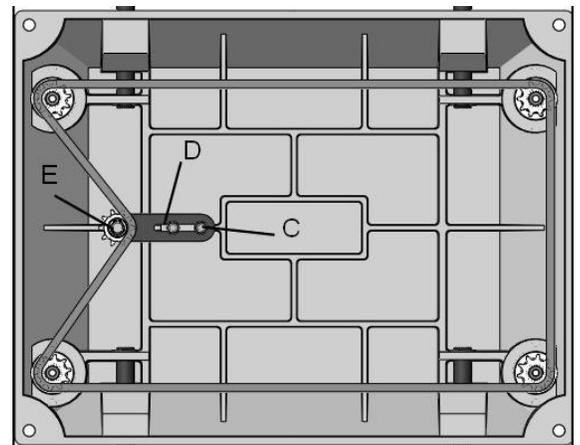

Fig. 17
If head casting is not parallel to table, tilt planer on it's side. Remove bolt C and loosen bolt (D) (Fig. 17). This will enable you to move the idler sprocket assembly (E) this procedure will release the tension of the chain.